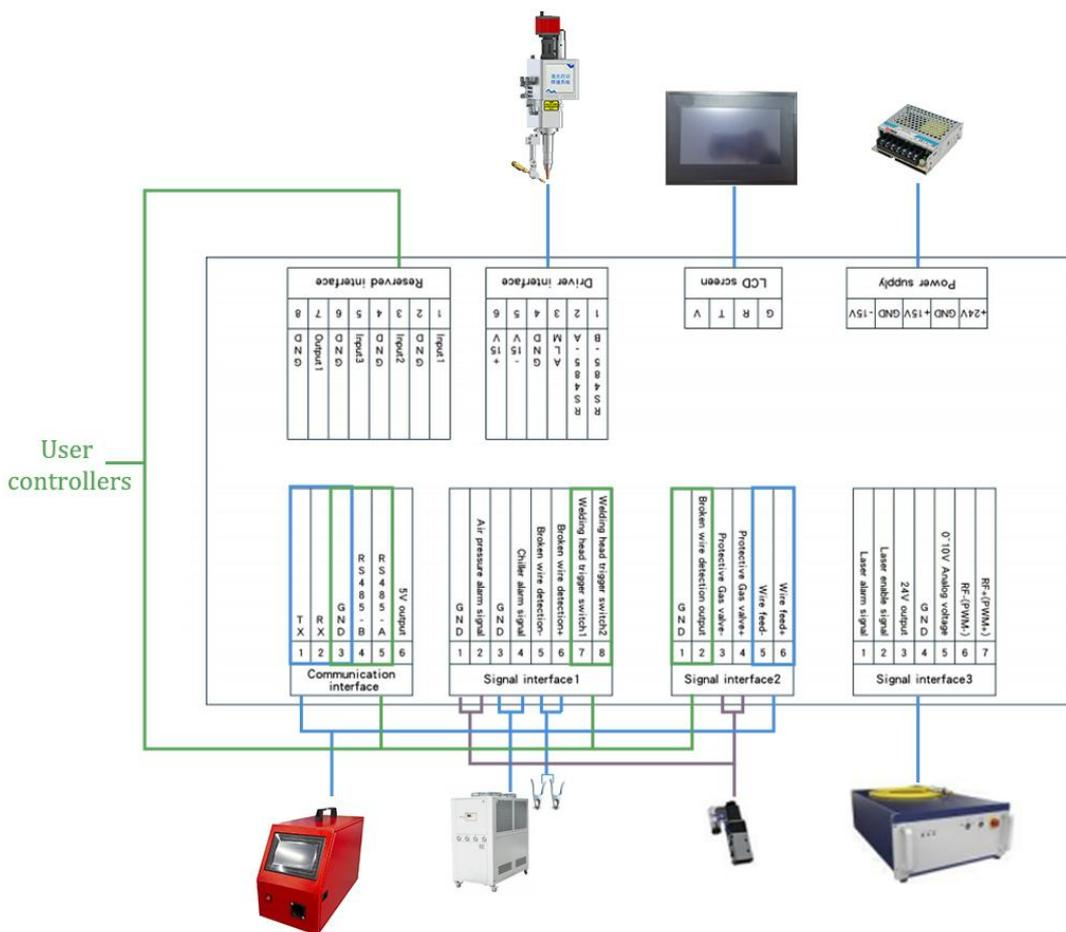

Figure 3.4 Wiring Diagram
- ① Keep the device clean inside and outside;
- ② During installation, the optical fiber head is placed horizontally with [QBH];
- ③ According to the scales of [Locking] and [Unlocking] in Figure 3.4, rotate and loosen QBH first, and then lock it after inserting the optical fiber head. After locking, the optical fiber head is placed in [QBH] without shaking.